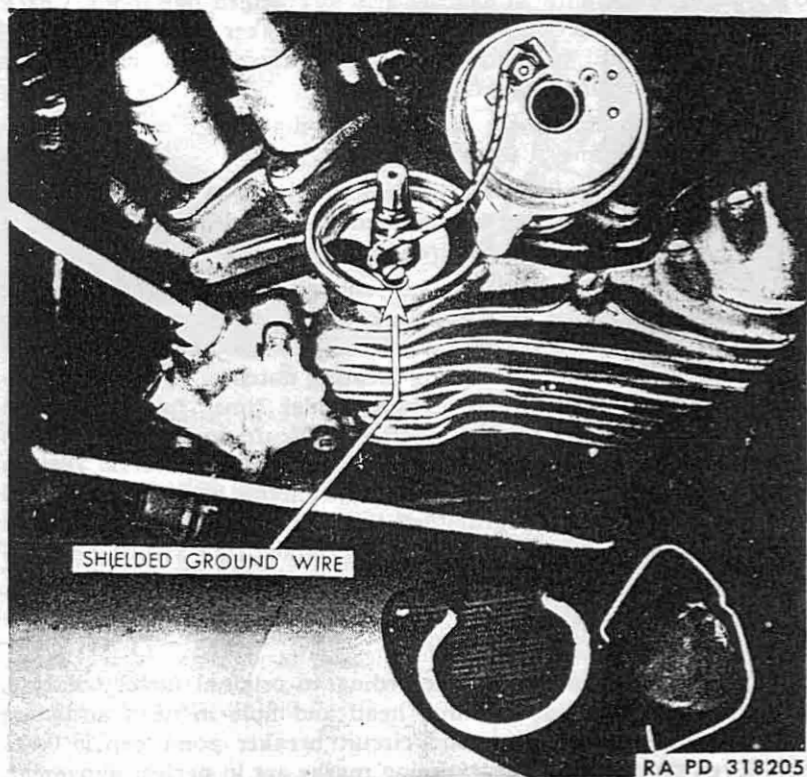
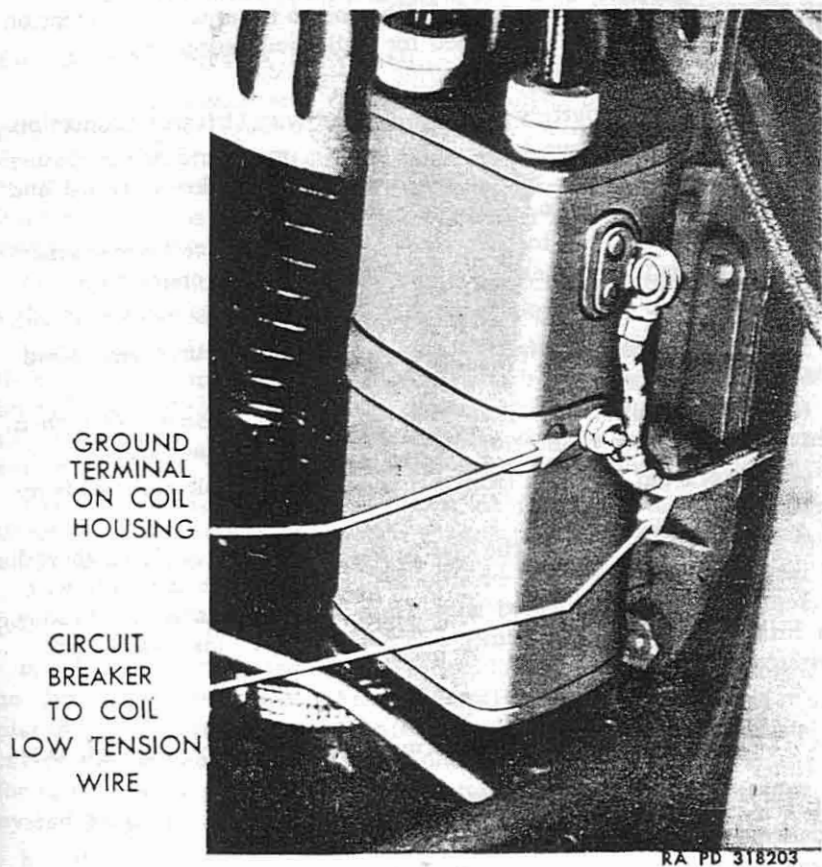

Figure 52—Shielding of Coil to Timer Wire Grounded on Base
Figure 53—Shielded Coil to Timer Wire Correctly Connected at Coil
(8) Fully advance spark lever (push inward toward engine) and observe how closely mark on breaker cam lines up with breaker lever fiber. If mark does not line up, lift timer base and turn shaft gear so its engagement with its driving gear is changed one tooth. Check again according to breaker cam mark and breaker lever fiber. Repeat this procedure until gear engagement is obtained which closely aligns cam mark and breaker lever fiber.
(9) See that timer base is turned so that timer to coil wire is toward rear of engine.
(10) Install timer base screws and lock washers. Make sure that timer to coil wire shielding is grounded under head of screw farthest away from engine (fig. 52). Securely tighten screws.
(11) Install timer head on base and secure with ground spring and cover retainer. Be sure ground spring is in its proper place so that when cover retainer ends are fitted through holes in the timer head, they will also fit into spring locating notches. It will be necessary to press ground spring upward under timer base to engage retainer ends in the spring notches. **NOTE:** *If cover retainer ends do not engage ground spring notches, spring will have no tension and timer head will be loose on its base.* Circuit breaker points and condenser are electrically grounded through timer base, and ground spring holds the head and base in close contact, thus assuring a good ground.
(12) Connect spark control wire and timer lever and adjust (par. 88).
(13) Engine is now timed according to original factory setting, providing mark on side of timer head and hole in head adjusting band are still in alignment, and circuit breaker point gap is 0.022 inch. Even though all ignition timing marks are in perfect alignment, as outlined in the foregoing instructions, it is advisable to accurately check ignition timing (step d following).
(8) With ignition timing correct, front cylinder piston is $\frac{9}{32}$ inch before top dead center, on compression stroke, when circuit breaker points just start to open. At this point spark occurs, igniting front cylinder fuel charge.
(9) Install flywheel inspection hole plug in left crankcase.
87. COIL TO TIMER WIRE (figs. 52 and 53).
(1) Disconnect battery negative ground wire at frame connection.
(2) Remove the two bolts which secure upper end of air cleaner bracket to frame tube. Swing air cleaner and bracket outward and forward to gain access to spark coil rear terminal.
(3) Disconnect coil to timer wire terminal from coil rear connection. Disconnect wire shielding from coil rear ground connection.
(4) Refer to paragraph 86 b (1) to (4) for timer head removal.
(5) Remove timer base mounting screw which secures wire shielding (fig. 52).
(6) Note position of coil to timer wire inside of timer head; then remove nut washer connecting wire to insulated contact stud.
(7) Work old wire and loom out of timer head hole and free from vehicle.
(8) On earlier models, the coil to timer wire was soldered to end of insulated stud. Removal of stud is necessary to remove this wire, or replace it with a shielded wire. Note location of stud insulations on inside and outside of timer head, for correct installation w/ reassembling.
(1) Pass end of wire, shield terminal, and loom up through hole in timer base.
(2) Ground the wire shield terminal under head of timer base mounting screw (fig. 52).
(3) Connect wire end terminal to insulated stud so that wire leads away from stud in direction shown (fig. 52).
(4) Pass coil to timer wire up alongside and to rear of frame saddle post tube to reach rear of spark coil.
(5) Ground the wire shield terminal to coil rear ground connection (fig. 53).
(6) Connect wire terminal to coil rear primary connection (fig. 53).
(5) Swing air cleaner and bracket assembly outward to gain access to coil rear terminals.
(6) Disconnect coil to timer wire from coil rear terminal screw. Disconnect wire shielding from coil rear ground terminal (fig. 53).